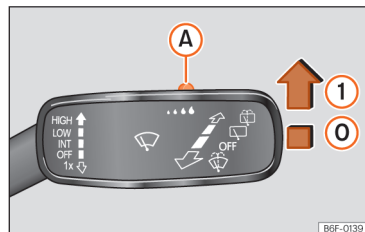

Fig. 84 Windscreen wipers lever: adjust the rain sensor **A**.
Push the lever to the desired position >>> **Fig. 84**.
- ① Rain sensor deactivated.
- ① Rain sensor active; automatic wiping if necessary.
When the ignition is switched off and then back on, the rain sensor stays on and starts operating again when the windscreen wipers are in position >>> Fig. 84 ① and the vehicle is travelling at more than 16 km/h (10 mph).